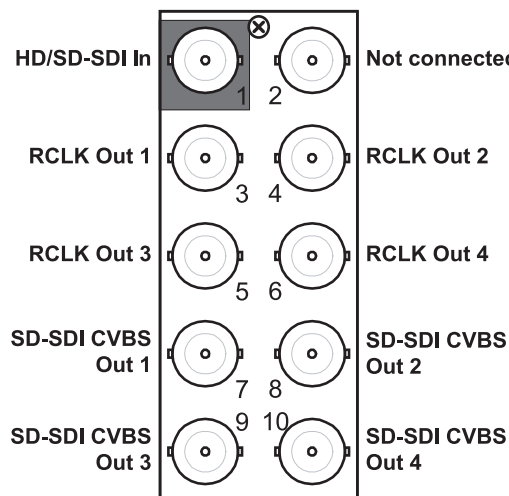

Figure 2.2 Cable Connections for the 8310AR-030 and 8320AR-030 Rear Modules
- **8310AR-030** Rear Module — Each card occupies one slot and provides one HD/SD-SDI input, four output copies of the re-clocked input, and four SD-SDI/CVBS outputs. (Figure 2.2).
- **8320AR-030** Full Rear Module — Each card occupies two slots and provides one HD/SD-SDI input, four output copies of the re-clocked input, and four SD-SDI/CVBS outputs. (Figure 2.2)